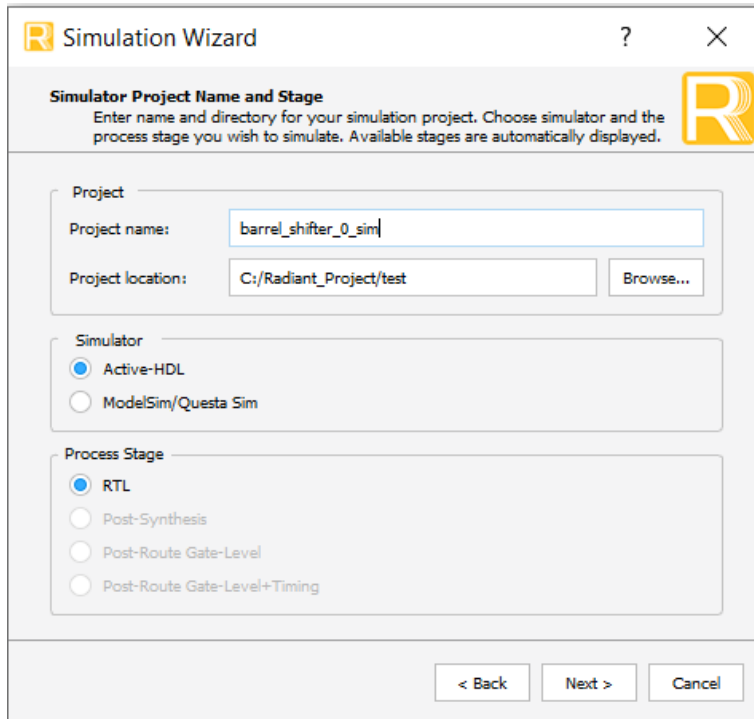

Figure 3.4. Simulation Wizard
1. Click the  button located on the **Toolbar** to initiate the **Simulation Wizard**, as shown in Figure 3.4.